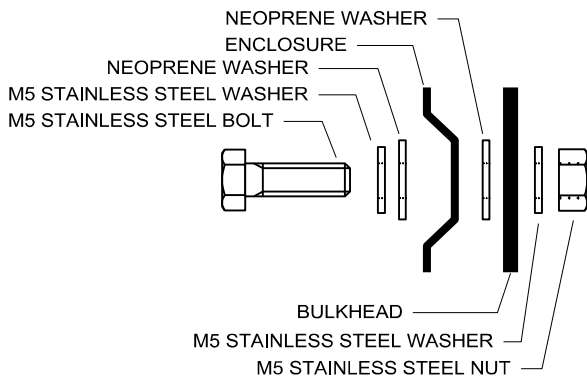

Figure 1 – Bulk Head Mounting Details
- (b) Mark the location of one of the upper fixing holes on the wall/bulkhead. Drill and fix with a suitably plated or stainless steel M5 nut, bolt and washers (fixings not supplied). The fixing must be sealed using two neoprene washers [supplied with the panel fixing kit], one fitted between the panel and the bulkhead and the other fitted between the panel and the steel washer inside the panel. See Figure 1 – Bulk Head Mounting Details. Do not fully tighten at this stage.
- (d) Check that neoprene seals have been fitted as shown in Figure 1 then fully tighten all of the fixing nuts & bolts.
- (b) Mark the location of one of the upper fixing holes on the wall/bulkhead. Drill and fix with a suitably plated or stainless steel M5 nut, bolt and washers (fixings not supplied). The fixing must be sealed using two neoprene washers [supplied with the fixing kit], one fitted between the panel and the bulkhead and the other fitted between the panel and the steel washer inside the panel. See Figure 1 – Bulk Head Mounting Details. Do not fully tighten at this stage.